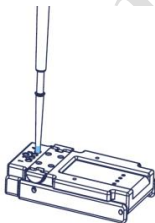

Figure 6-2: Load samples using MGIDL-200H
- ① Each lane requires 30 μ L of DNB loading mix.
- ② Before DNB loading, clean the device as described in the MGIDL-200H Quick Start Guide.
- ③ Install the sealing gasket and flow cell. Aspirate 30 μ L DNB loading mix with a pipette and insert the wide bore tip into the fluidics inlet (see Figure 6-2). Do not press the control button of the pipette after inserting the tip into the fluidics inlet. Eject the tip from the pipette and the DNB loading mix will automatically flow into the flow cell.
- ④ After DNB loading, rotate the tips counterclockwise to remove them. Place the device on the bench with the front upward for 30 min before use.